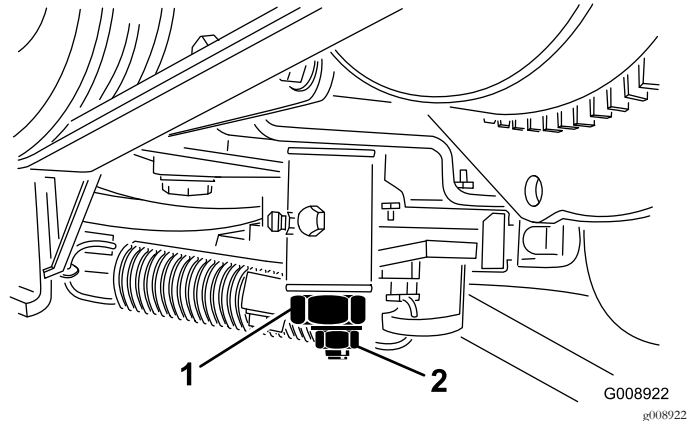

Figure 68
3. Loosen locknut on traction adjustment cam (Figure 68).